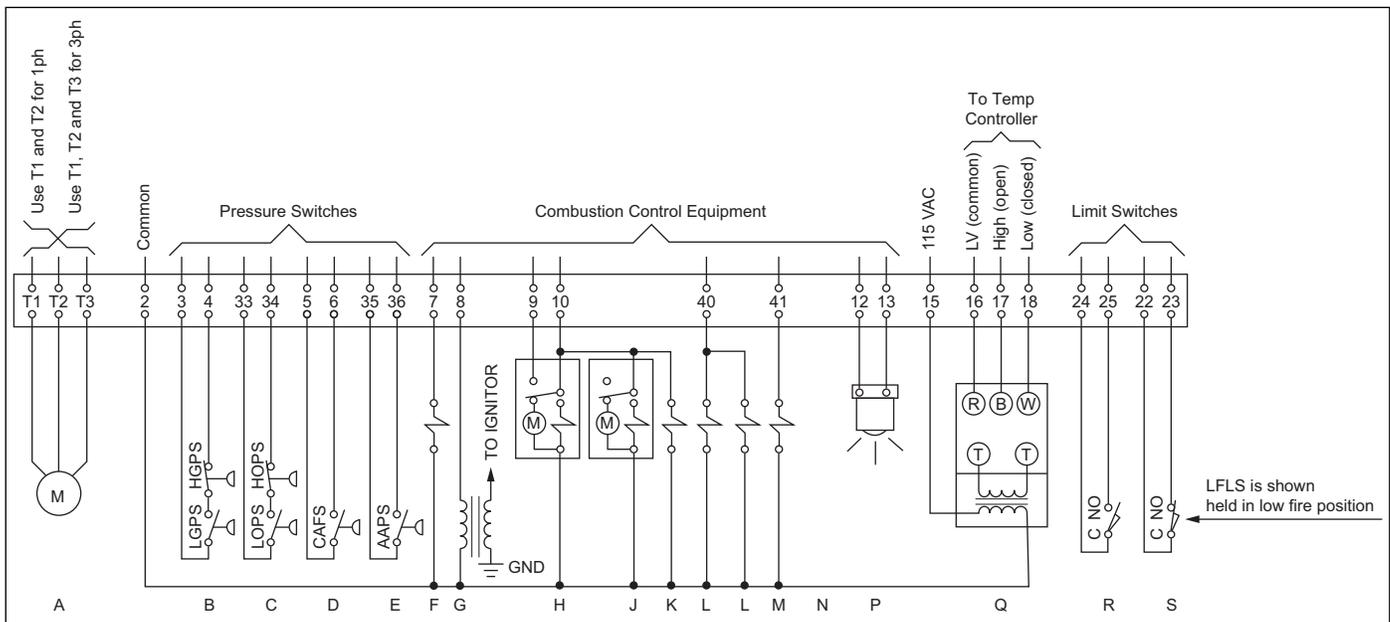

Figure 3.3. Terminal Strip Wiring Diagram for MF-CGO-IRI (FIA) Burner
1. All electrical equipment furnished with the "complete" Mark IV burner is prewired to a terminal strip. See Figure 3.3.